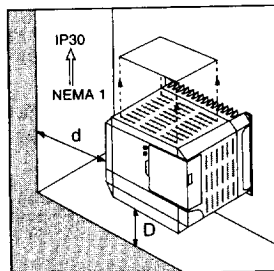

Figure 3 IP30 Installation
- Figure 3 shows the space that must be allowed around the drive controller;  $D \geq 4$  in (100 mm),  $d \geq 2$  in (50 mm)